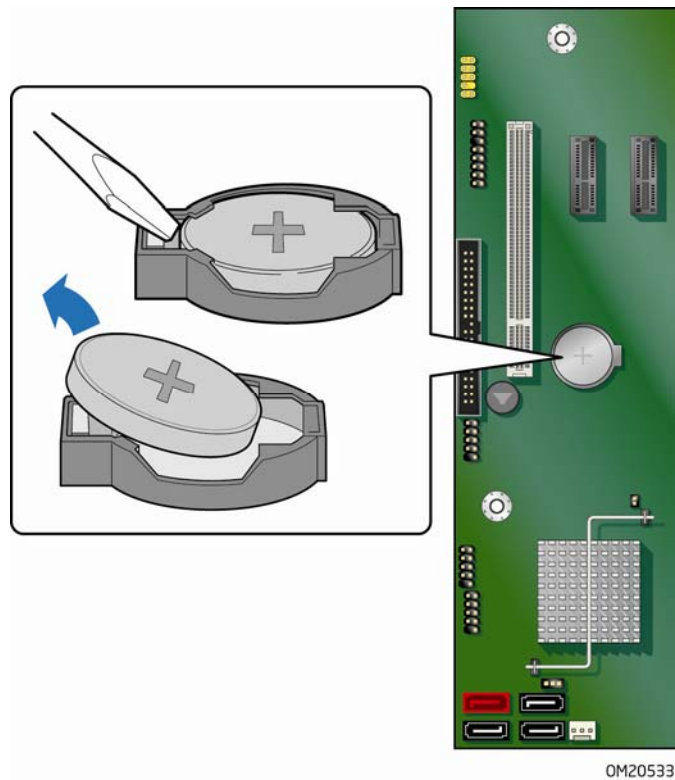

Figure 27. Removing the Battery
When the voltage drops below a certain level, the BIOS Setup program settings stored in CMOS RAM (for example, the date and time) might not be accurate. Replace the battery with an equivalent one. Figure 27 on page 61 shows the location of the battery.
4. Locate the battery on the board (see Figure 27).